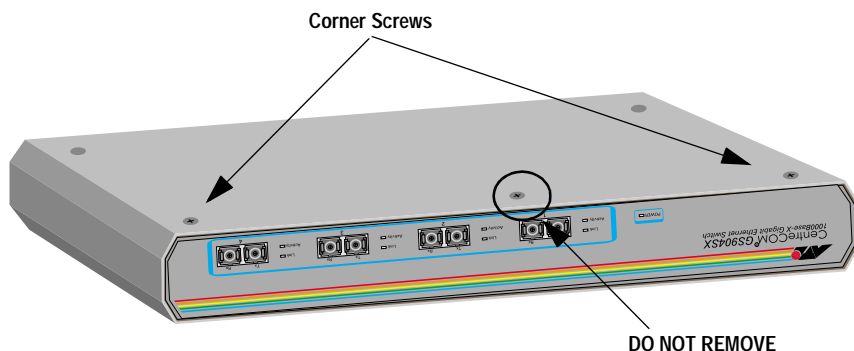

Figure 4 Bottom View of the AT-GS903SX Module
2. Remove one of the corner screws from the bottom of the module. Removing both corner screws at the same time, will cause the faceplate to loosen. **Do not remove the center screw.** Refer to Figure 4.